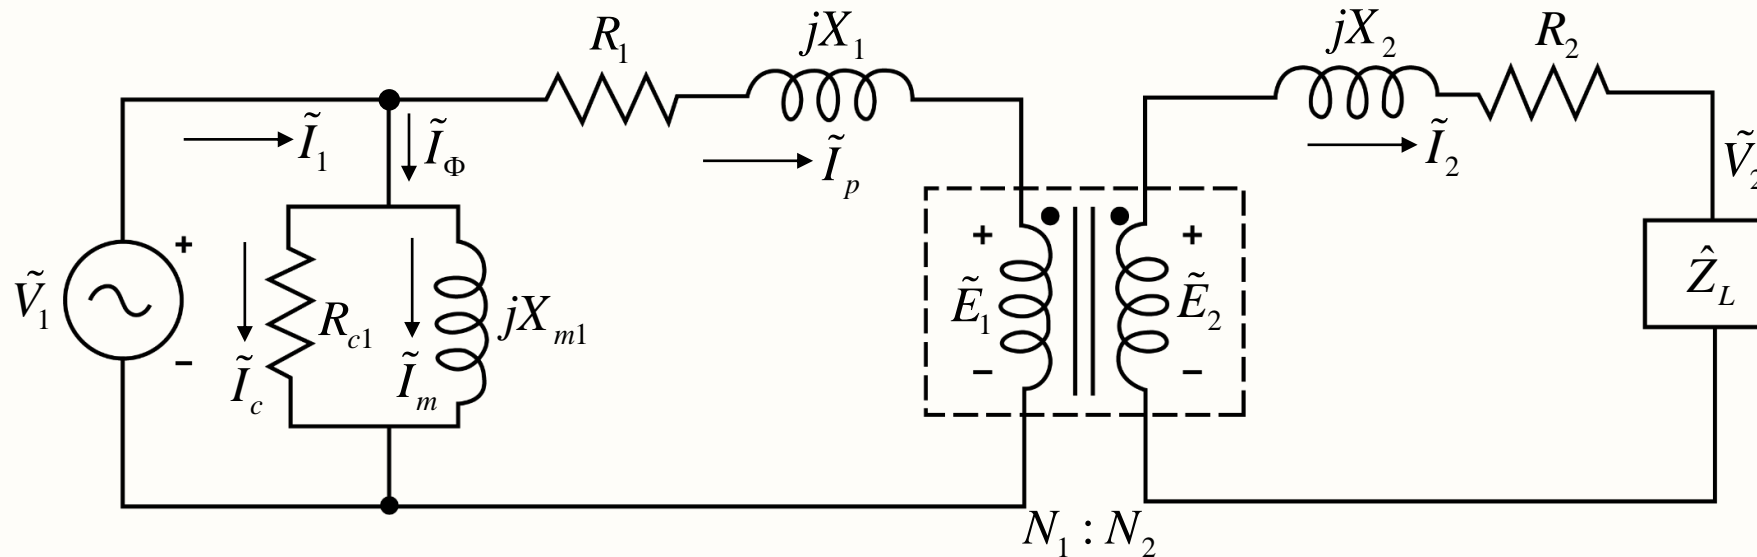

Fig. 22. Approximate equivalent circuit of a transformer.
- ❖ Such a simplified circuit is called the **approximate equivalent circuit** as shown in Fig. 22, and commonly used to simplify the computations. This, however, will introduce a small amount of error.